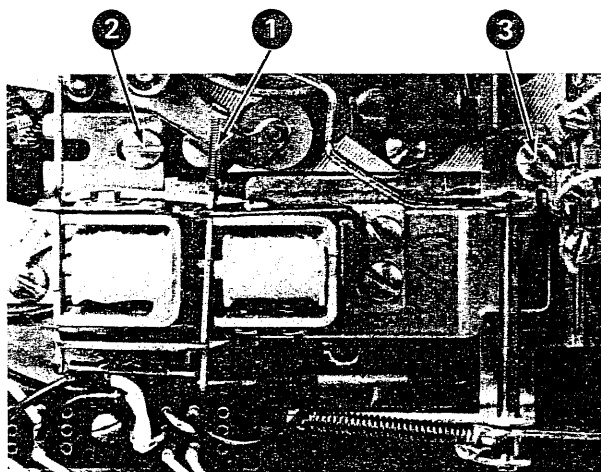

Figure 4-39. Shift-Magnet-Assembly Removal (Steps 1-3)
1. Remove the spring from the hold armature (No. 1, Figure 4-39).
2. Loosen the front mounting stud (screw on Level 2) (No. 2, Figure 4-39).
3. Loosen the rear mounting screw (No. 3, Figure 4-39).